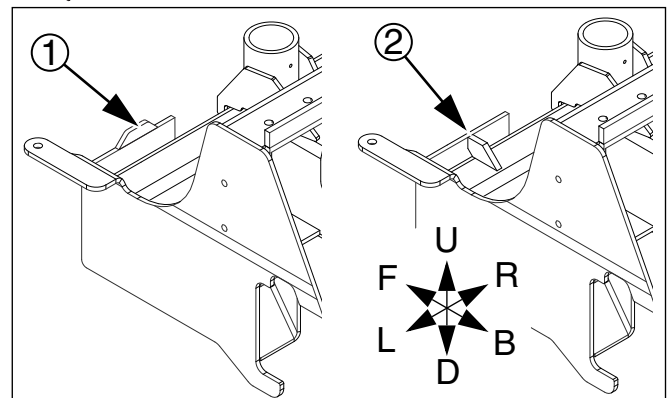
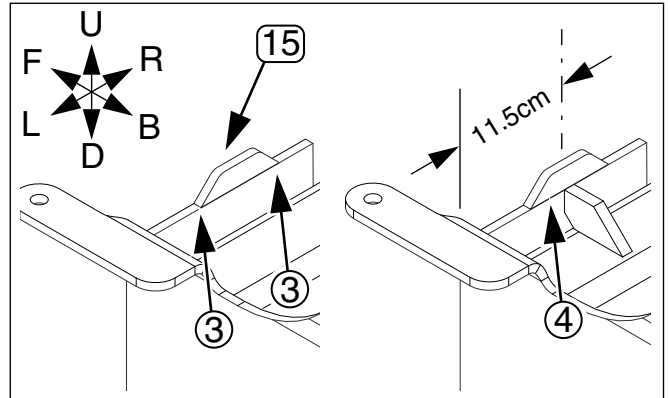

Figure 6
Figure 7
20. Make a 1cm ( $\frac{3}{8}$ in) fillet weld along the top/front ③ and bottom/rear ⑤ ends.
**Install Pivot Stop Face Plates***Refer to Figure 6*
23. Inspect the rear sub-frame pivot assembly (just aft of the hitch sub-frame just worked on). Note whether or not the pivot stop plate ① has a gusset plate ② present. Each case is illustrated separately in the instructions that follow.
24. Remove the paint from the top edge of the stop plate ①, from an area 6cm on either side of a point 11.5cm from the outside edge of the plate (the area to be covered by the stop face plate extension ⑮ shown in Figure 7). Also remove paint on the front and back of the plate within 1cm of that same area.
Refer to Figure 7